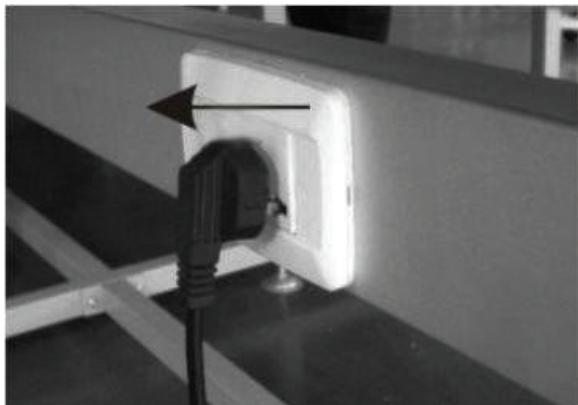

Figure 7
the min line(see 11.4), then re-connect the top cover to the humidifier bottle, as shown in Figure 7. The humidifier used with PM-KN10 must comply with the general requirement of the 93/42/EEC European Directive as appropriate.
9.5. When finished the absorbing, set the I/O power switch to the “O” position to turn off the unit, if there is discontinuous use, please unplug the power plug, as shown in Figure 7.